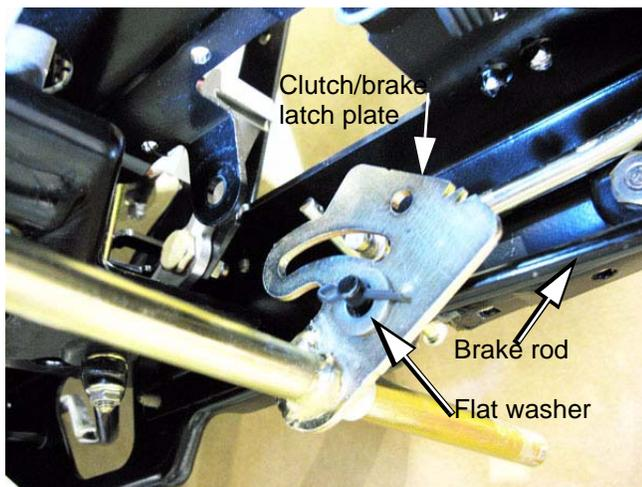

Figure 5.29
12. Disconnect the brake rod from the clutch/brake latch plate. See Figure 5.29.